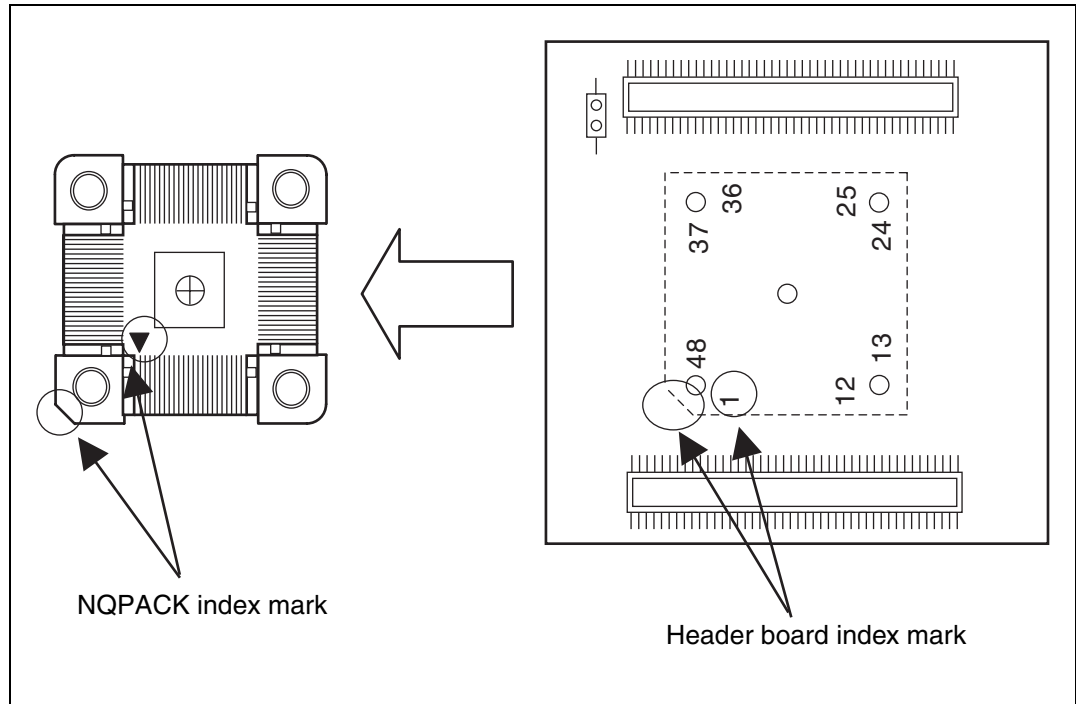

Figure 4 Index Position
1. To connect the header board to the user system, match pin 1 indicated by the index mark (▲) on the NQPACK mounted on the user system with pin 1 indicated by the index mark (an angle cut linearly at one place only in silk screen) on the header board and then insert it (See “Figure 4”). The pins of YQPACK are thin and easy to bend. Insert NQPACK after confirming that the pins of YQPACK are not bent.